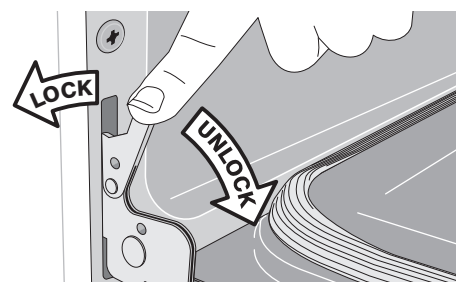
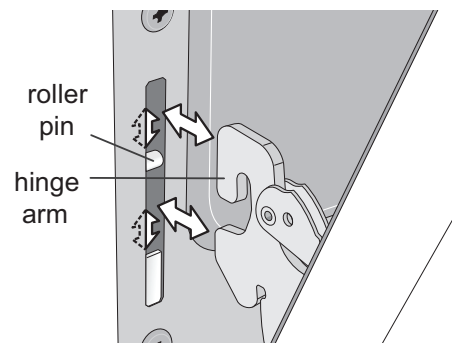

Figure 34: Unlocking hinge
Figure 35: Lock disengaged for door removal
2. Pull up the lock located on each hinge support toward front of the oven. You may have to apply a little upward pressure on the lock to pull it up (Figure 34 and Figure 35).
2. Holding the oven door at the same angle as the removal position, seat the hook of the hinge arm over the roller pins located on each side of the oven door frame (Figure 34 and Figure 35). The hook of the hinge arms must be fully seated onto the roller pins.
4. Push the door hinge locks up toward and into the oven frame on both left and right oven door hinges to the locked position (Figure 34).